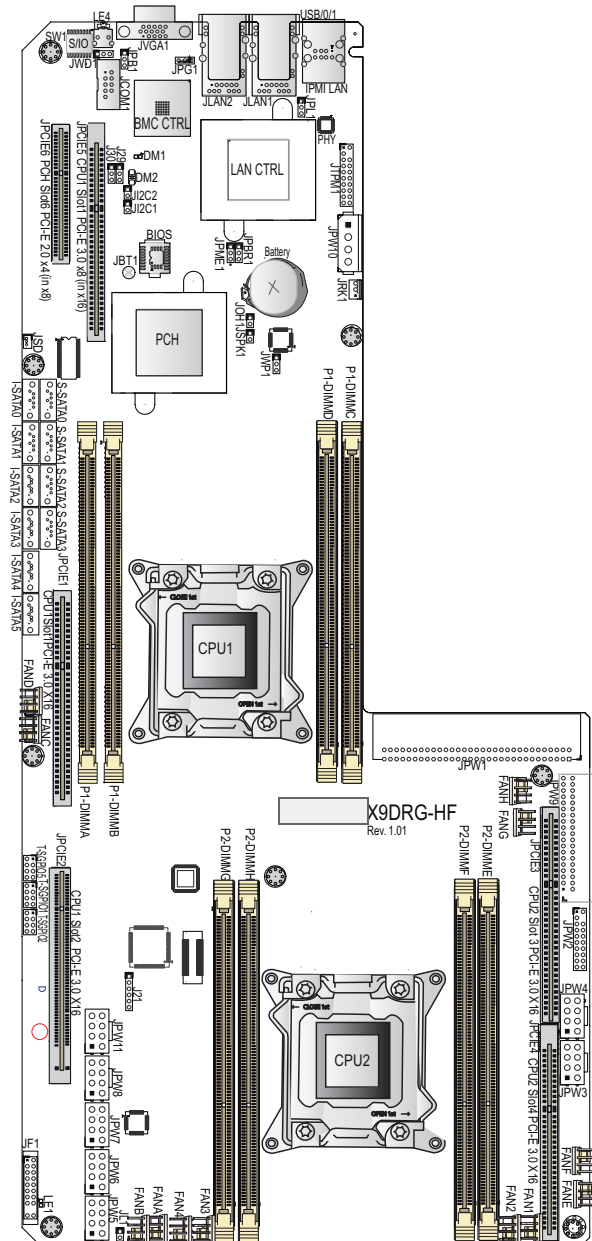

Figure 5-2 Node Board Features
- See Figure 5-2 on page 34 for CPU locations on the serverboard - note that the drawing is not to scale.